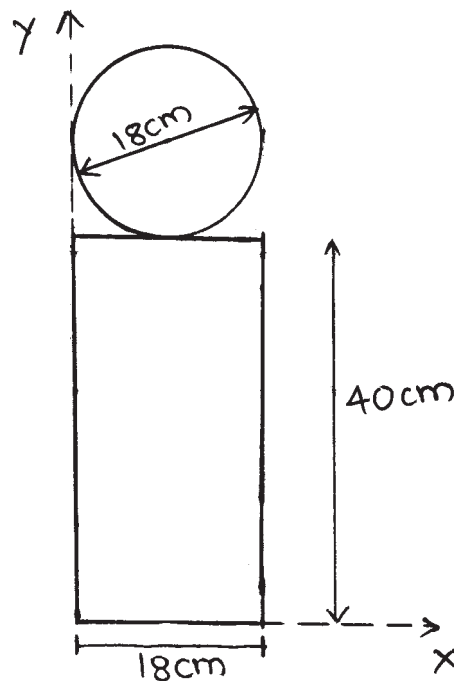

Fig. No. 11.
- c) A solid sphere of 18cm in diameter is placed on the top of a cylinder which is also 18cm in diameter and 40cm high such that their axes coincide. Find the centre of gravity of the combination. Refer Fig. No. 11.